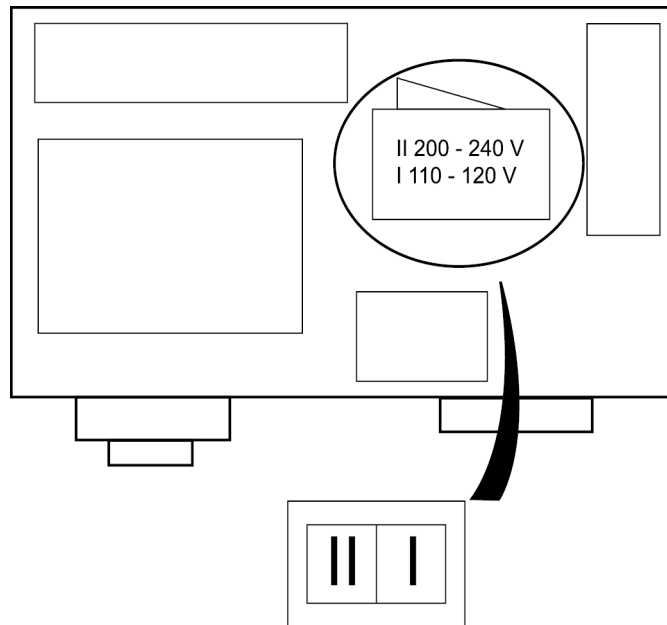

Figure B-1 Rotary Pump with Terminal Box Cover Off
2. Loosen the three screws that fasten terminal box cover to the rotary pump motor. This reveals the top internal view of the motor as shown in Figure B-1, and the voltage selector switch is revealed.